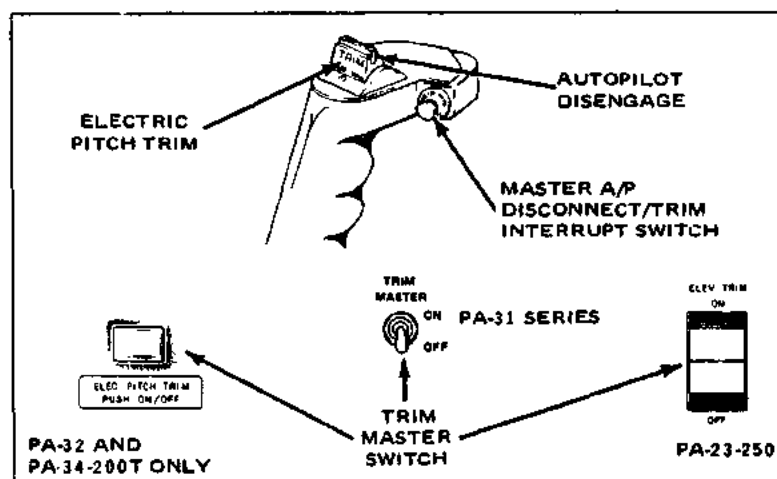

Figure 15-1
When the AltiMatic IIC is disengaged, the pilot can adjust pitch trim electrically through a switch on the pilot's control wheel (see Figure 15-1). The Master A/P Disconnect/Trim Interrupt Switch (located on the pilot's control wheel) will disconnect the Autopilot and Yaw Damper when pressed and released. When pressed and held this switch will interrupt all electric trim operations.
- c. Turn ON TRIM MASTER SWITCH (Ref. Fig. 15-1).
- g. DEPRESS MASTER A/P DISCONNECT/TRIM INTERRUPT SWITCH (Button-Ref. Fig. 15-1) on pilot's control yoke, to verify this switch immediately disconnects Autopilot.
- h. HOLD THIS MASTER A/P DISCONNECT/TRIM INTERRUPT SWITCH IN and actuate AUTOPILOT/ELECTRIC PITCH TRIM SWITCH (Rocker-Ref. Fig. 15-1) on pilot's control yoke to verify this rocker switch is now inoperative.